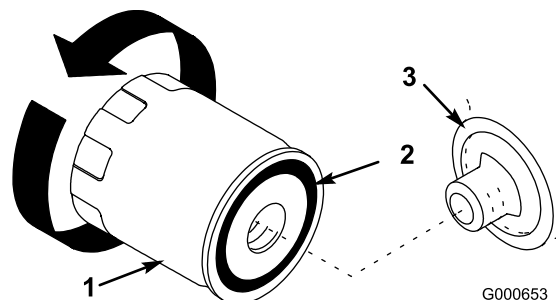

Figure 30
8. Remove the old filter and wipe the filter adapter (Figure 30) gasket surface.
11. Apply a thin coat of new oil to the rubber gasket on the replacement filter (Figure 30).
12. Install the replacement oil filter to the filter adapter. Turn the oil filter clockwise until the rubber gasket contacts the filter adapter, then tighten the filter an additional 1/2 turn (Figure 30).